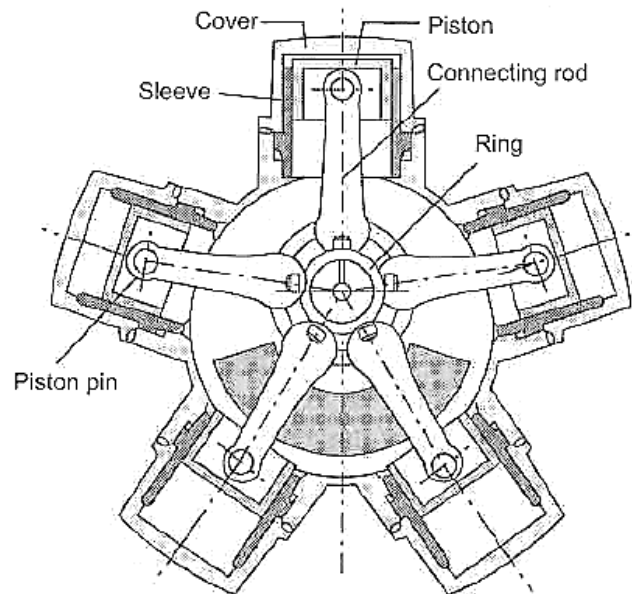

Fig.5.15 Radial piston motor
- ▶ The radial design is frequently adopted on the large kilowatt motors and three, four, five, or six cylinder models are produced. A schematic diagram of a piston type radial motor is shown in *Fig.5.15*.